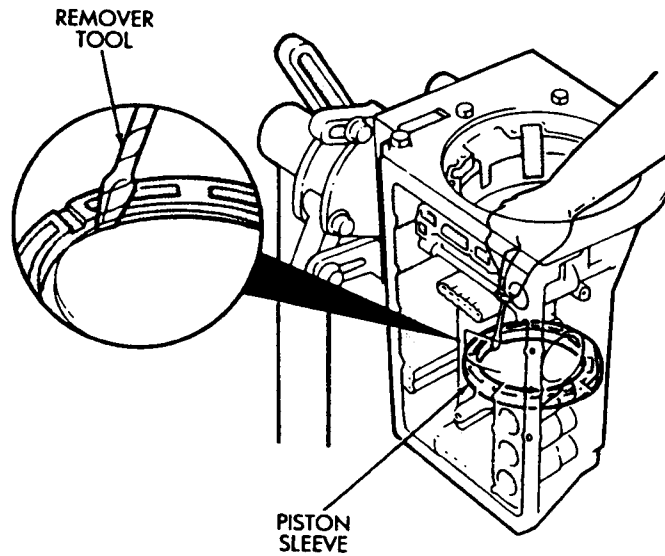

Fig. 45 Removing Second Brake Piston Sleeve
(54) Remove second brake piston sleeve (Fig. 45). Cover remover tool with tape to avoid damaging case.